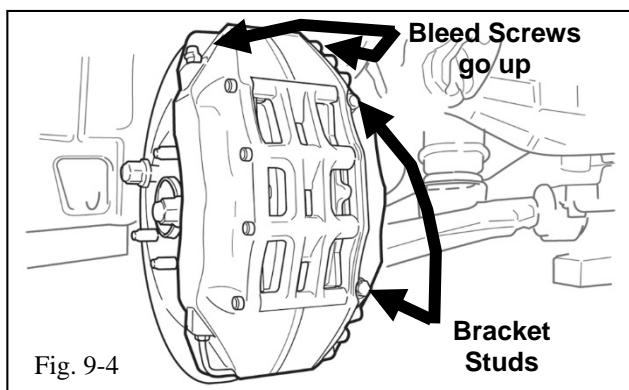

Fig. 9-4
- (f) After removing the nuts and washers from the caliper bracket studs, install the caliper/pad assembly onto the rotor with the bleed screws up while aligning the mounting holes with the studs (Fig. 9-4). Install the washers and then the nuts. Tighten the nuts.